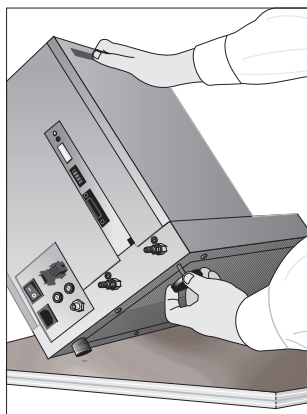

Figure 2.3
7. Have your assistant lift one side of the unit while you install two mounting feet on one side (see Figure 2.3). Screw in about 1/4-inch of the threaded mounting post into the unit. Rotate the unit and install the two remaining mounting feet in the same manner.